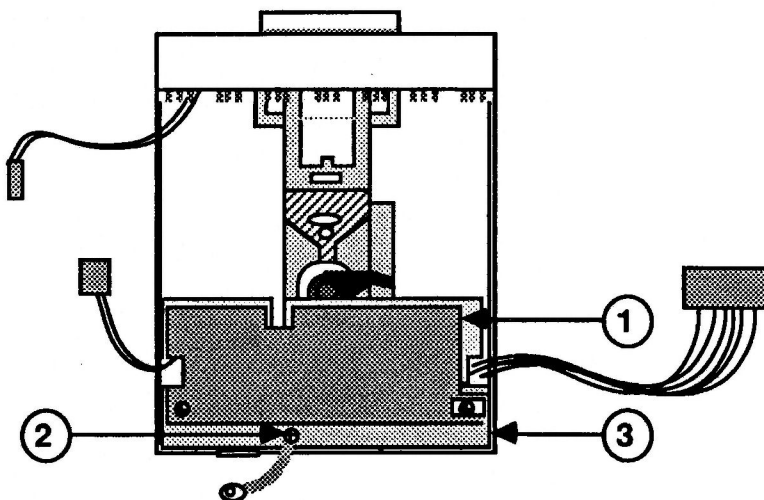

FIGURE 2
2. Remove the black insulation paper (Figure 2, #1).
3. Remove the Phillips screw (Figure 2, #2) that secures the ground strap to the chassis. Set the ground strap aside.
4. Lift off the metal shield (Figure 2, #3) and set it aside.
3. Replace the metal shield (Figure 2, #3), routing the cables through the cutouts at the sides of the shield (see Figure 2).
4. Place the black insulation paper (Figure 2, #1) on the metal shield.
5. Replace the Phillips screw (Figure 2, #2) to secure one end of the ground strap to the chassis.